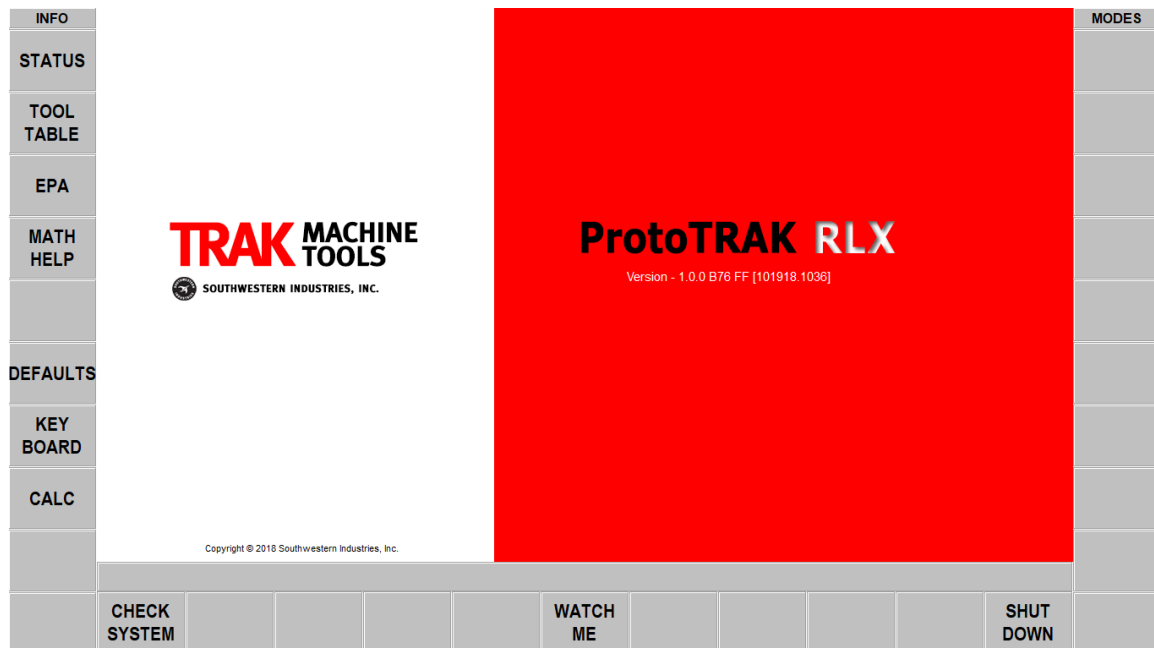

Figure 4.1 - The ProtoTRAK RLX will display this Startup screen after it boots up.
In order to reach the SHUT DOWN soft key, first close any Fly Out Windows that are open. We also recommend that you complete any prompted activity, such as programming an Event. Press the BACK hard key repeatedly until you get to the screen shown in Figure 4.1 above.
***Note:** If you find the ProtoTRAK RLX gestures have become sluggish, it is time to restart the control. Press the Back hard key until you encounter the Startup screen (Figure 4.1 above) and tap Shut Down.*